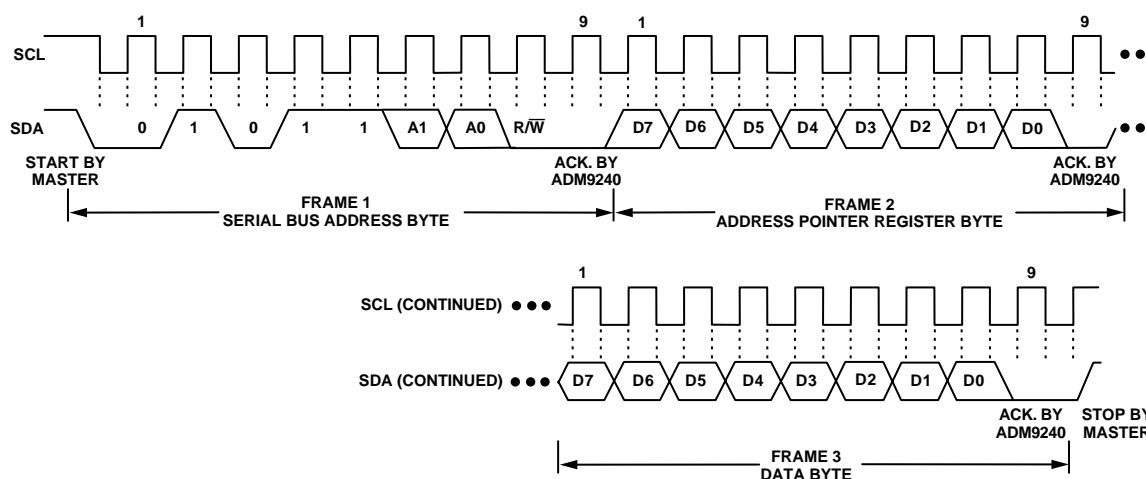

Figure 2a. Writing a Register Address to the Address Pointer Register, then Writing Data to the Selected Register
This is illustrated in Figure 2a. The device address is sent over the bus followed by R/ \overline{W} set to 0. This is followed by two data bytes. The first data byte is the address of the internal data register to be written to, which is stored in the Address Pointer Register. The second data byte is the data to be written to the internal data register.
2. In Figures 2a to 2c, the serial bus address is shown as the default value 01011(A1)(A0), where A1 and A0 are hardwired to either Logic 0 or Logic 1.